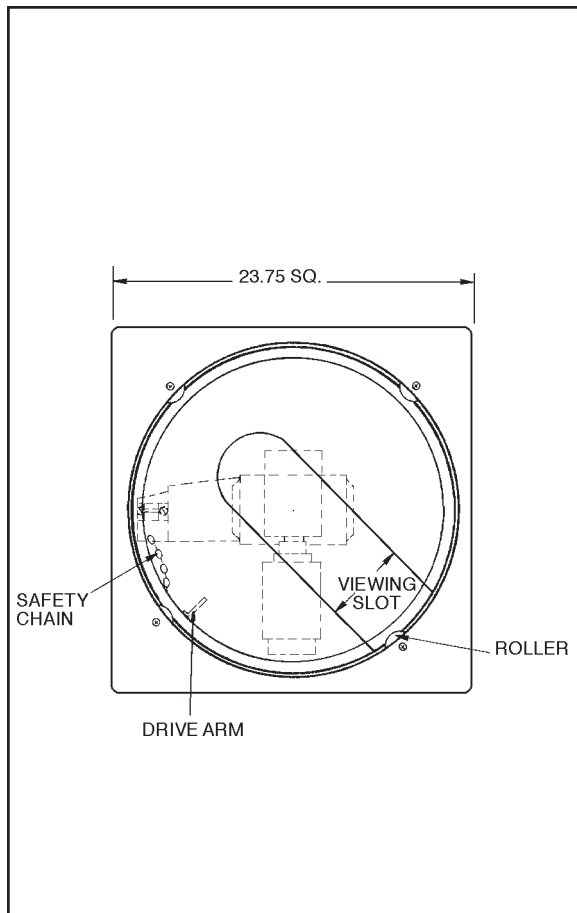

Figure 1-1. Inside View of Lower Dome
- Attach the safety chain to the lower dome and make certain that the chain does not interfere with proper seating of the drive tab. (See Figure 1-1.)
- Install the lower dome with viewing slot to the right of the camera/lens with the lens pointed towards you. Insert the rim of the dome into two of the rollers. Align the drive tab with the slot in the drive arm bracket. Press the dome against the rollers and gently deflect the dome until you are able to insert the rim into the final rollers. (See Figure 1-1.)